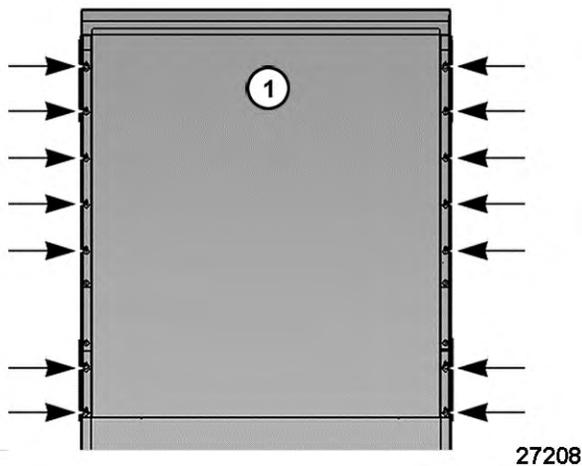
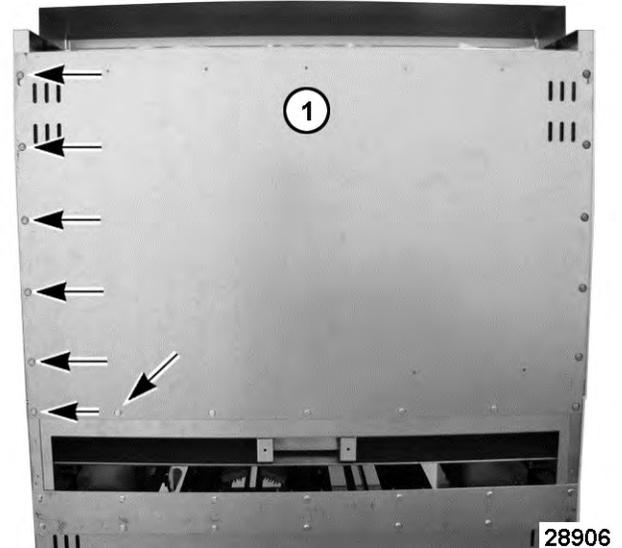

Fig. 5
Fig. 6
- B. At rear of broiler, loosen screws securing the flue back panel [1] Fig. 5 to broiler frame then lift panel off broiler.
NOTE: The mounting holes in the flue back panel Fig. 5 are keyed to allow for easy panel removal without having to remove all the screws that are also securing the back panel Fig. 6 to broiler frame.
- C. For the side panel being removed, remove screws at the rear that are securing the back panel [1] Fig. 6 and side panel to broiler frame. Arrows shown in Fig. 6 are pointing to the rear screw locations for right side panel removal.